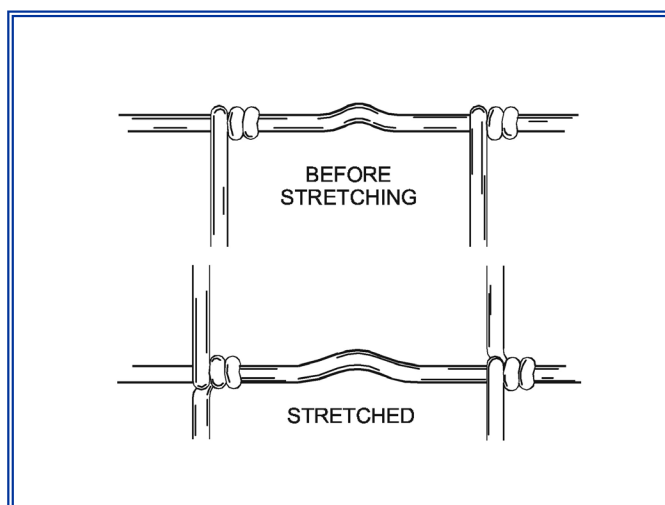

Figure 5 Tensioning Woven Wire
- Tension woven wire to remove only one-third to one-half of the tension curve from the line wires. See Figure 5.